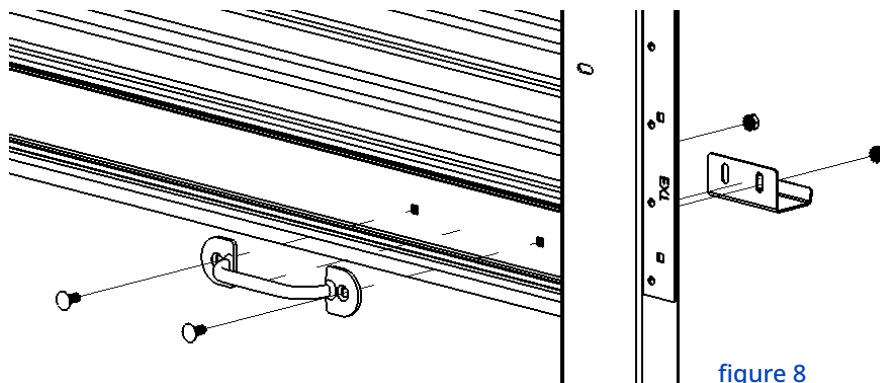

figure 8
- ✦ Install handle(s) on outside of bottom bar using $\frac{1}{4}$ - 20 x $\frac{5}{8}$ " carriage bolts and keps nuts. See Figure 8.